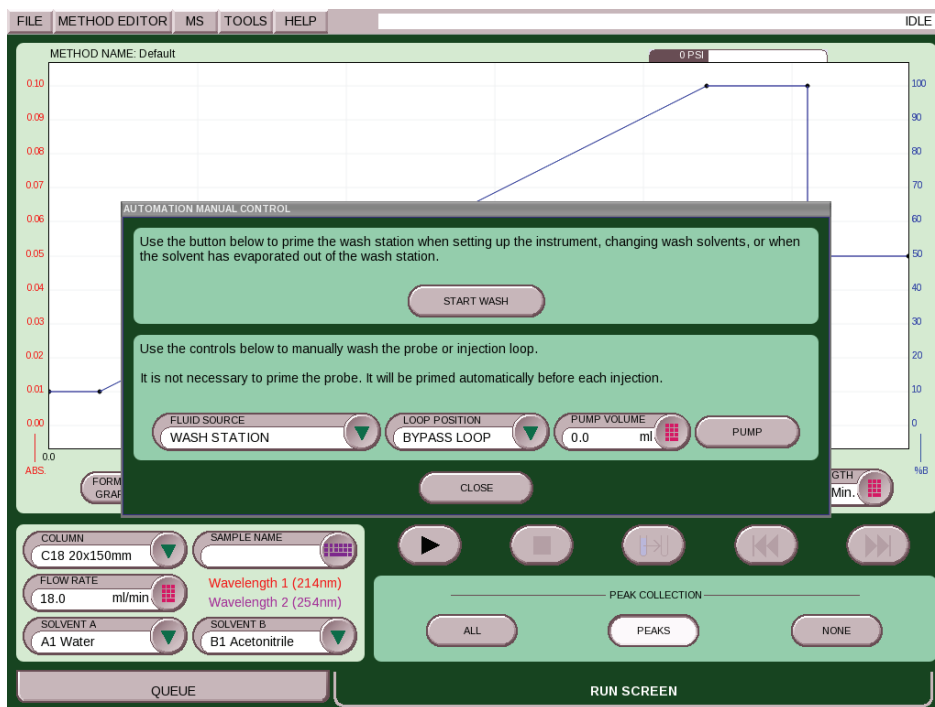

Figure 2-30 Screen of Start Wash button
2. Go to TOOLS | AUTOMATION MANUAL CONTROL, and select the START WASH button (Figure 2-30).